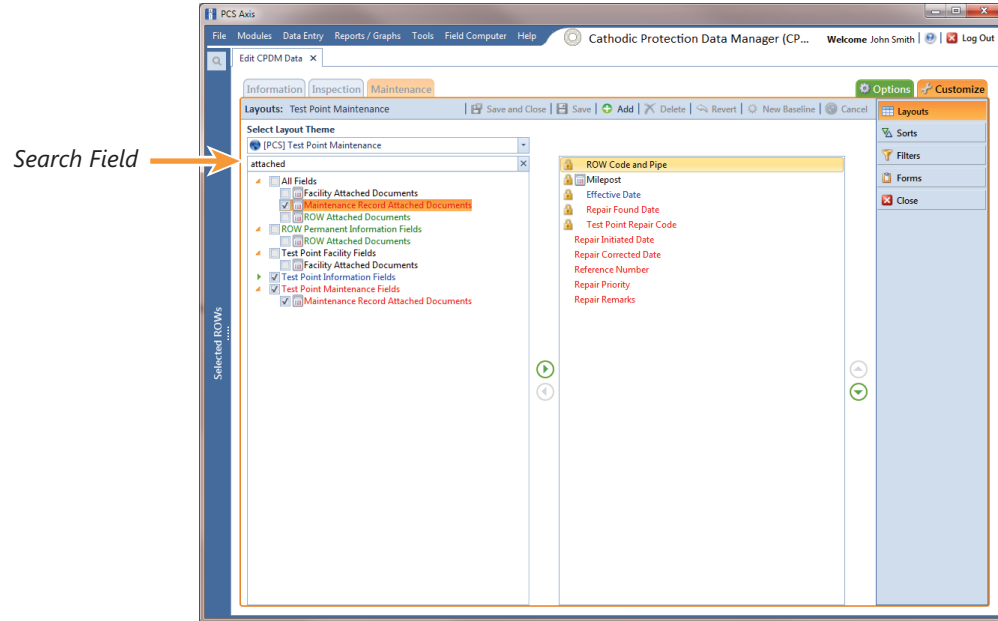

Figure 7-131. Layouts
- a** Click the check box for the field **Maintenance Record Attached Document** in the left pane of the window (Figure 7-131).